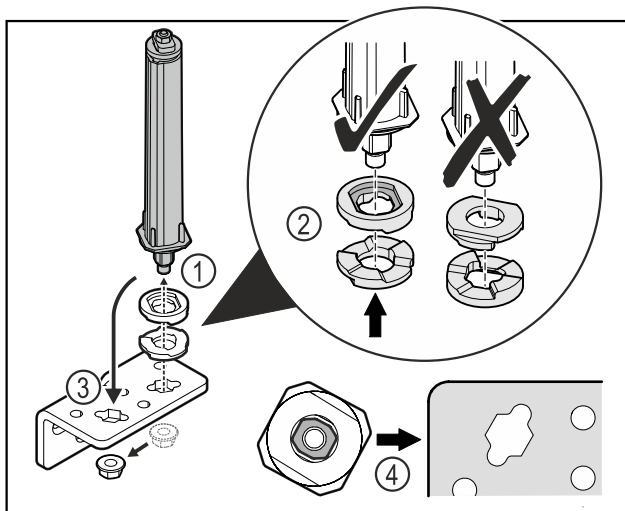

Fig. 27
- ▶ Loosen the nut and remove the door closing system Fig. 27 (1).
- ▶ Observe the correct alignment of the height adjustment washers Fig. 27 (2).
- ▶ Put the door closing system in the hinge and fix in place with the nut Fig. 27 (3).
- ▶ Observe the correct alignment of the door closing system when doing so Fig. 27 (4).